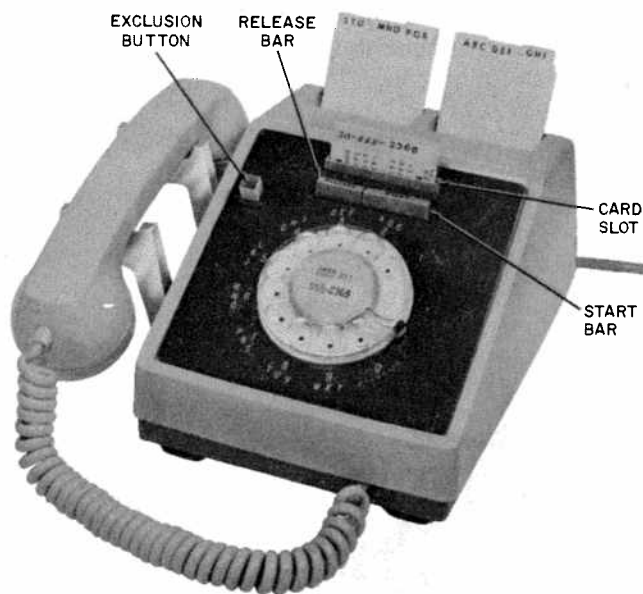

Fig. 1—660-Type Telephone Set
1.01 The 660- and 663-type telephone sets are desk-type, card dialer sets which provide for automatic and manual dialing (Fig. 1 and 2). They are similar in appearance and operation and provide for the following optional features:
**2.06** The exclusion feature, if provided, is actuated by pulling up on the plastic button at the top left of the faceplate (Fig. 1). The exclusion switch is connected to the switch hook assembly by a wire link so that exclusion is canceled when the handset is restored.